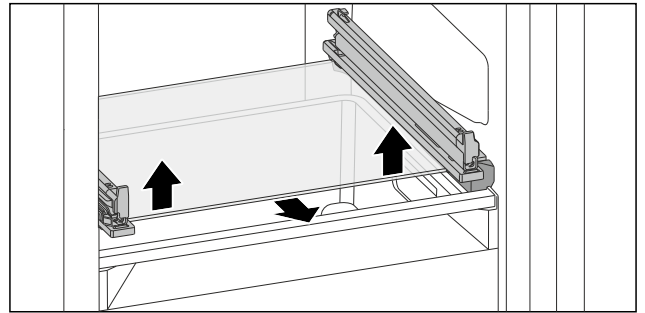

Fig. 85 Tilting drawer glass shelf
- Push glass shelf upwards from below on both sides. (see Fig. 85)